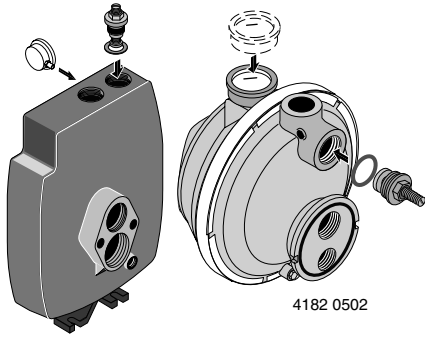

Figure 1: Install Control Valve and Gauge
- Step 2. Install the control valve and pressure gauge in the pump body (see Figure 1).
- Step 1. Install the control valve and pressure gauge in the pump body (see Figure 1).